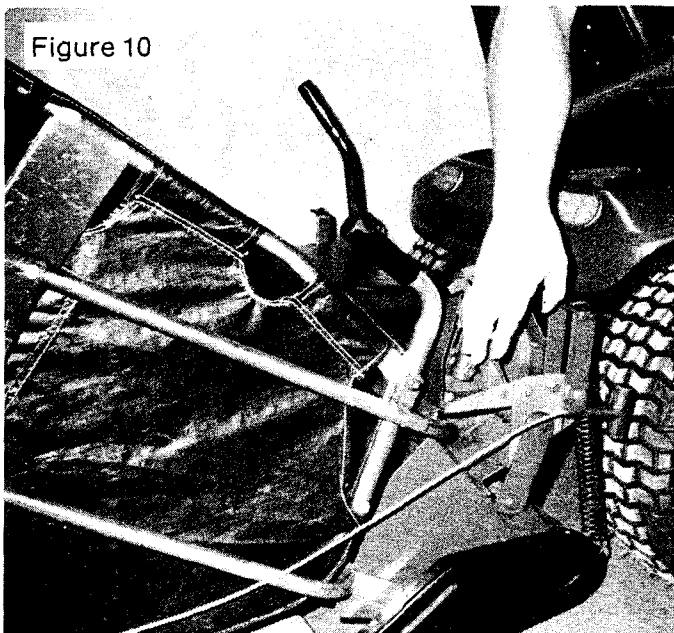

Figure 10
3. **DUMPING.** Normal dumping can be accomplished from operator's position on tractor. Raise hamper latch, then grasp "T" handle on dump cable and pull to front of tractor. Debris hamper will rotate to rear and dump away from sweeper. Some extreme conditions may cause this dumping method to be uncomfortable. An auxiliary dump handle is provided for these situations. See Figure 10.